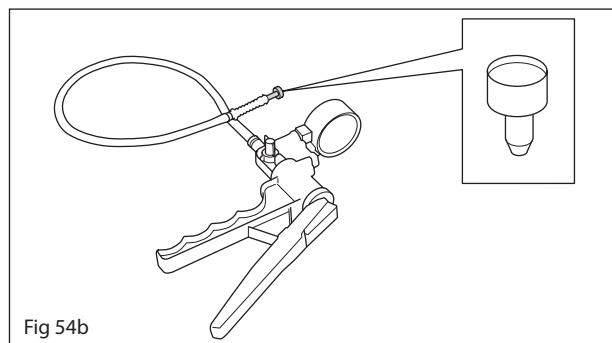

Fig 54b
2. Connect the 531 03 06-23 pressure gauge (see Figure 54b) to the tank valve.